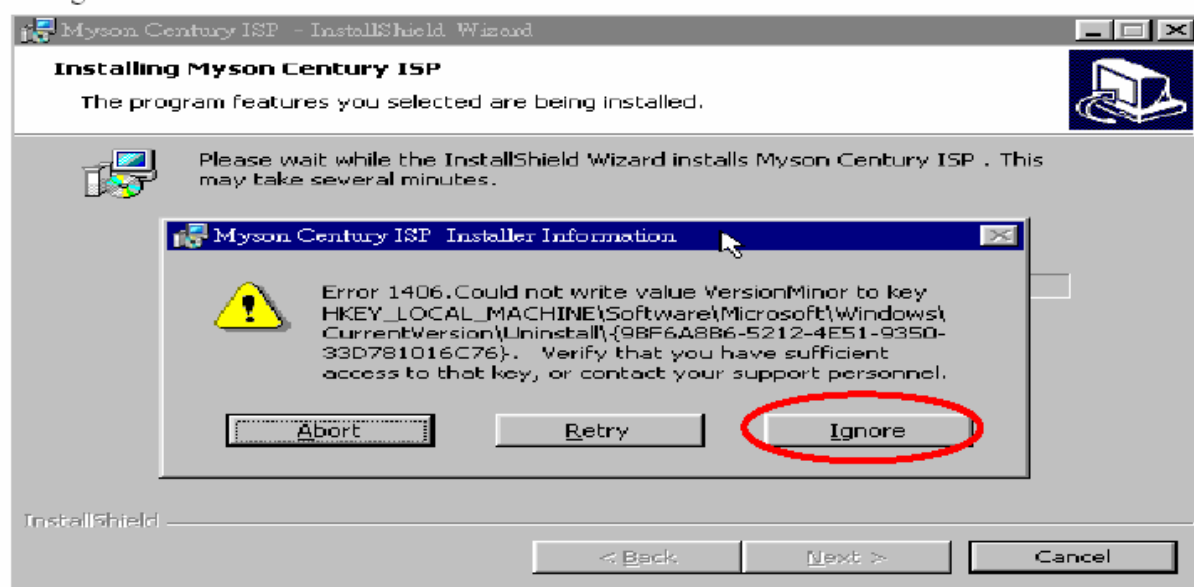

Fig 1.6
1.6 The installer Information shows package warning , Press “Ignore “button to continue .see Fig 1.6 .